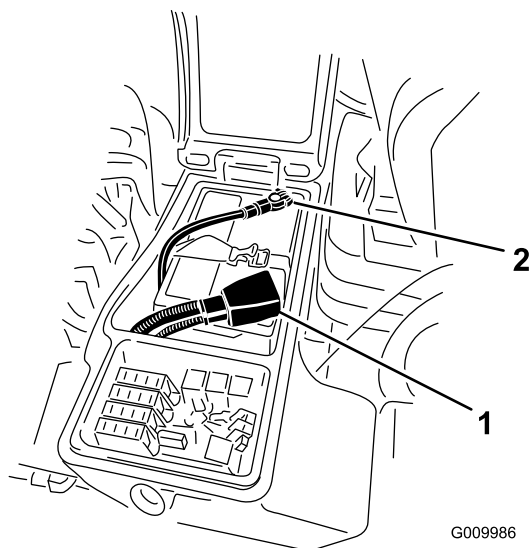

Figure 38
4. Install the positive cable (red) to the positive (+) terminal and the negative cable (black) to the negative (-) terminal of the battery (Figure 38). Secure cables to posts with capscrews and nuts. Make sure that the positive (+) terminal is all of the way onto the post and the cable is positioned snug to the battery. The cable must not contact the battery cover. Slide the rubber boot over the positive terminal to prevent a possible short from occurring.